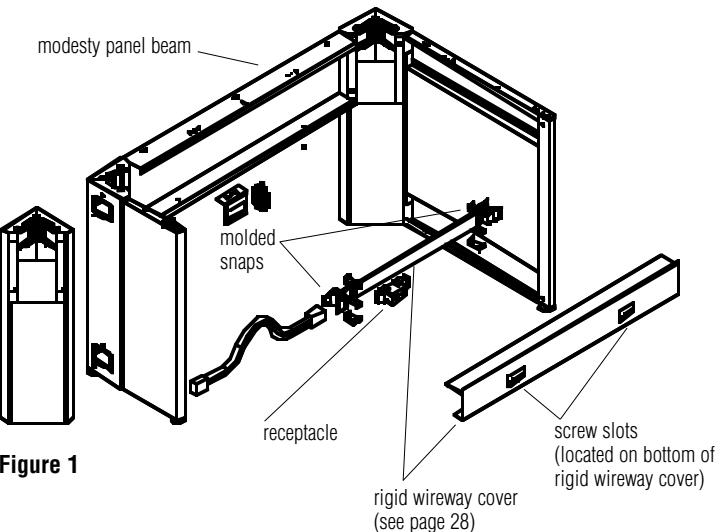

Figure 1
1. Locate the letter "N" and arrow on rigid wireway and hold with arrow pointing up. Assemble rigid wireway bracket onto bottom injection molded snaps, one bracket per end. Place rigid wireway assembly on inside of modesty panel beam, aligning holes in rigid wireway brackets with those in the modesty panel beam. Secure with two $\frac{1}{4}$ -20 x $\frac{1}{2}$ screws (Figure 1).
2. Snap the appropriate receptacle into the rigid wireway with firm pressure from center of desk (Figure 1).